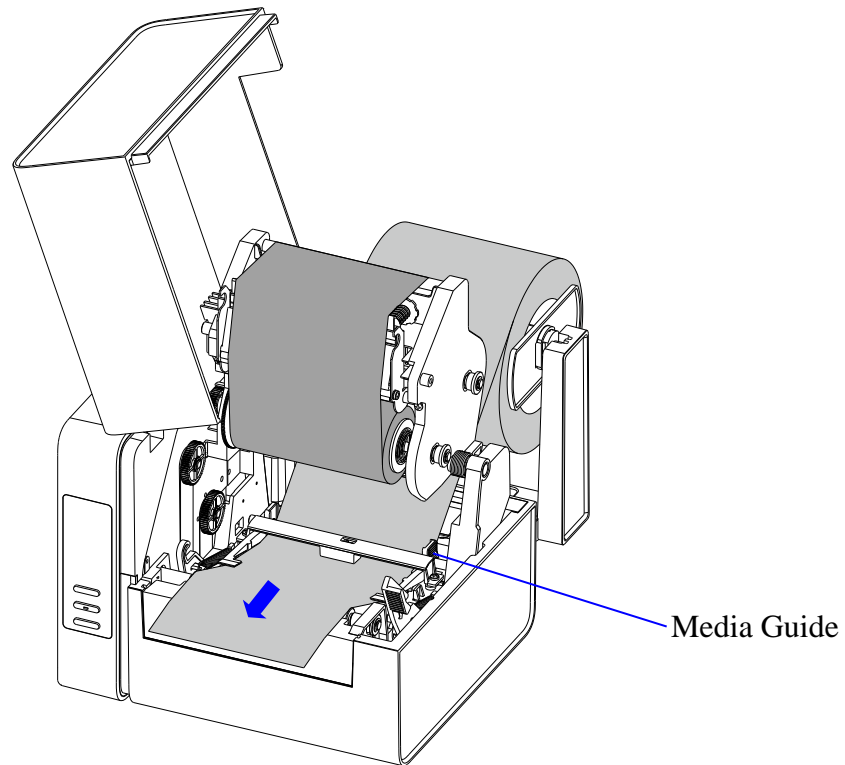

Figure 2-17 Slide the Media Guide
6. Slide the Media Guide to the edge of the media, making sure that the media remains flat and is placed in the middle of the Tear-off Bar, as shown in Figure 2-17. This can be checked with the